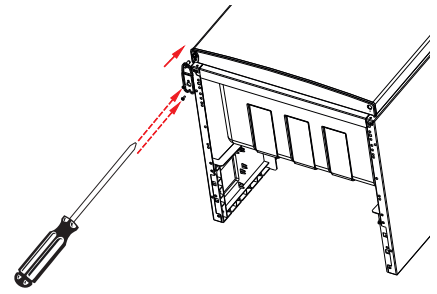

Fig. 18
- ▶ Use a Phillips screwdriver to secure the two retaining screws on the lower hinge (Fig. 18). Do not tighten the retaining screws completely yet so that you can still align the door. Tighten both retaining screws on the lower hinge only when it is possible to close the door evenly.